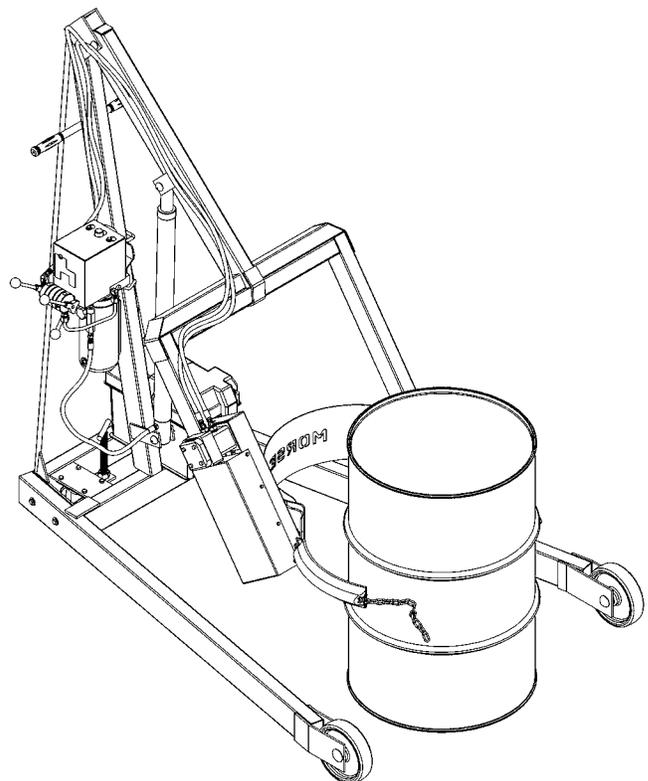

Figure 3.1
The screw-down floor lock is located on the base of the tower (figure 3.1). Turning the floor lock clockwise until it locks in the down position activates the floor lock. When the floor lock is activated it prevents unwanted free wheeling of the unit. Floor conditions determine the effectiveness of the floor lock. The operator should verify its holding action before depending on it to hold.
- 2.) Using the "LIFT" control as described in "**Machine Description - Controls**", position drum holder assembly with back band at the middle of drum (Figure 3.1). With ratchet plate swung open and cinch chain hanging from chain hook, push unit until back band rests firmly against drum. Some adjustment to tilt angle of saddle (drum holder) may be necessary to ensure band fits flush on drum.